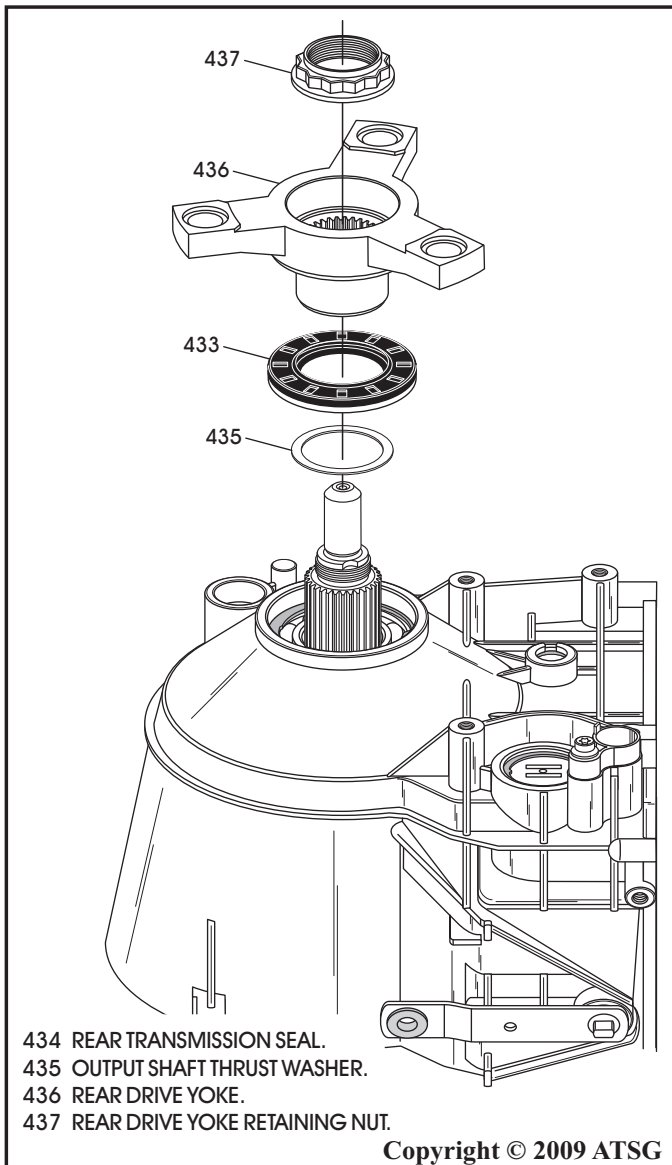

Figure 191
33. Install output shaft washer in transmission, as shown in Figure 191.
34. Install the rear transmission seal, as shown in Figure 191, using proper seal driver.
35. Lubricate the transmission yoke seal surface with a small amount of Trans-Jel®, and install yoke, as shown in Figure 191.
36. Place the transmission in the Park position and install the nut, as shown in Figure 191, using a 30mm 12 point socket.